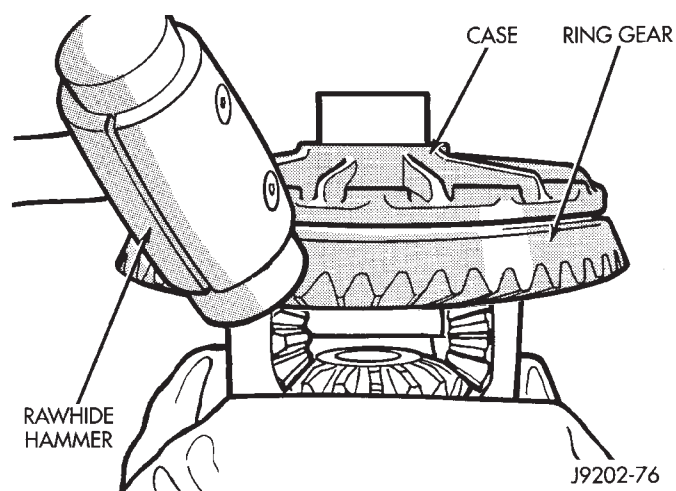

Fig. 24 Ring Gear Removal
(1) Remove differential from axle housing.
(2) Place differential case in a suitable vise with soft metal jaw protectors. (Fig. 24).
(3) Remove bolts holding ring gear to differential case.
(4) Using a soft hammer, drive ring gear from differential case (Fig. 24).